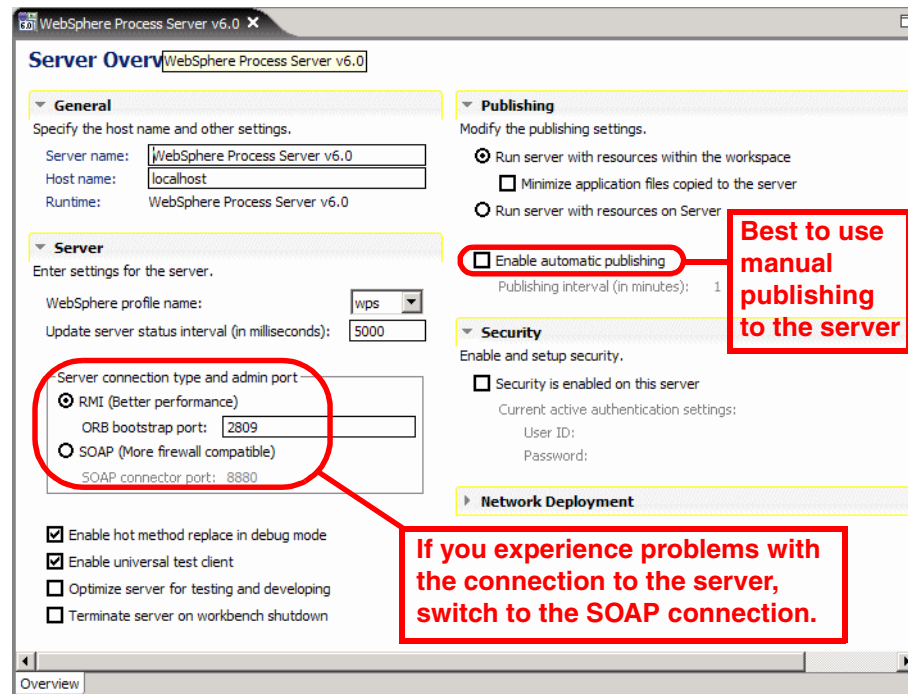

Figure 9-5 Process server configuration
- ▶ Integration Developer communicates with the server through either RMI or SOAP. You can select the protocol by opening the server configuration—double-click *WebSphere Process Server v6.0* (Figure 9-5).